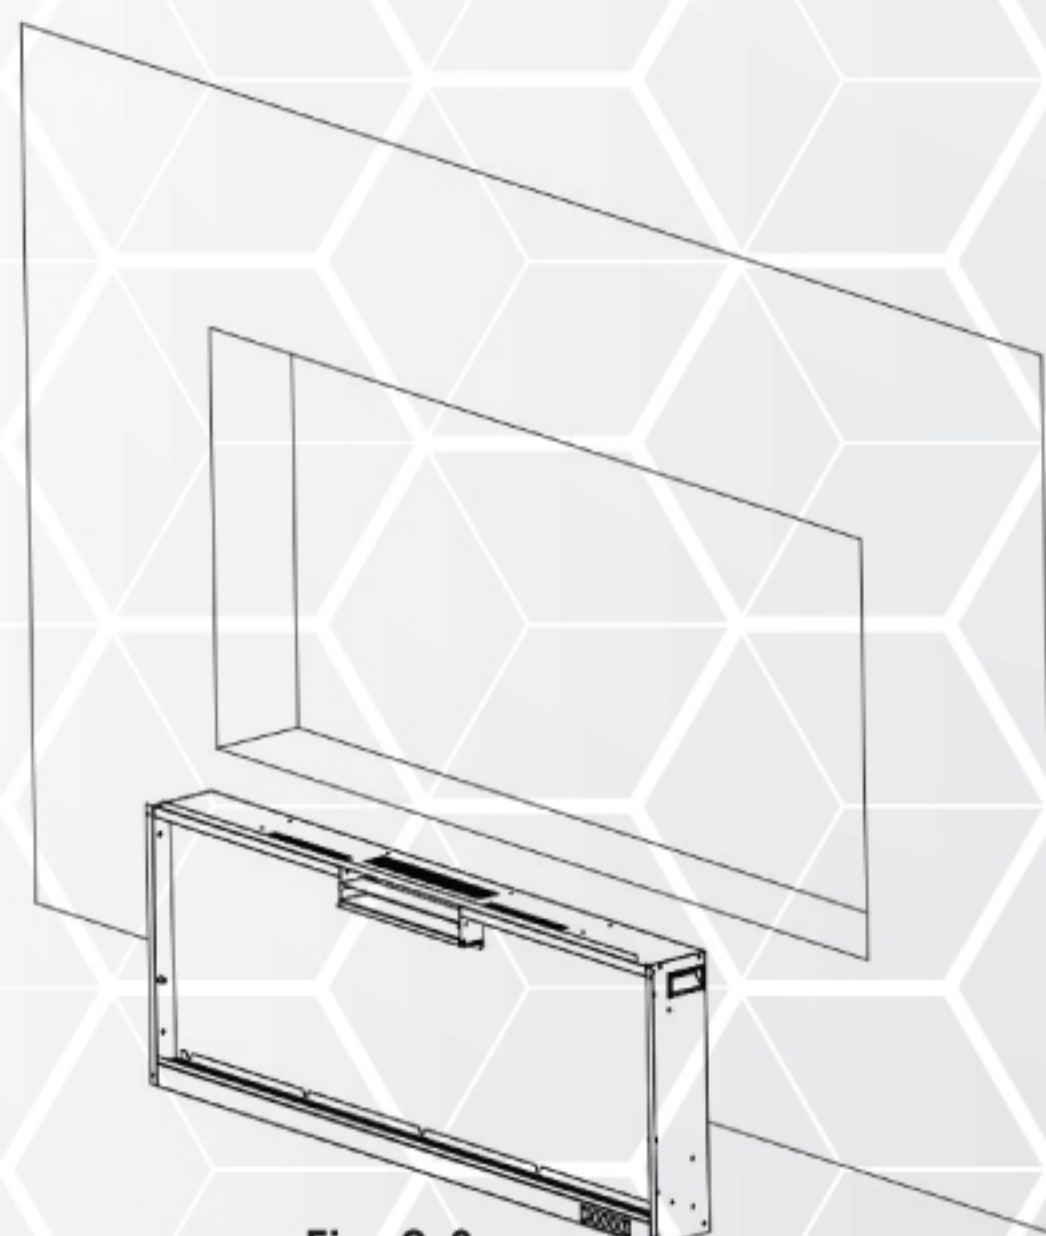
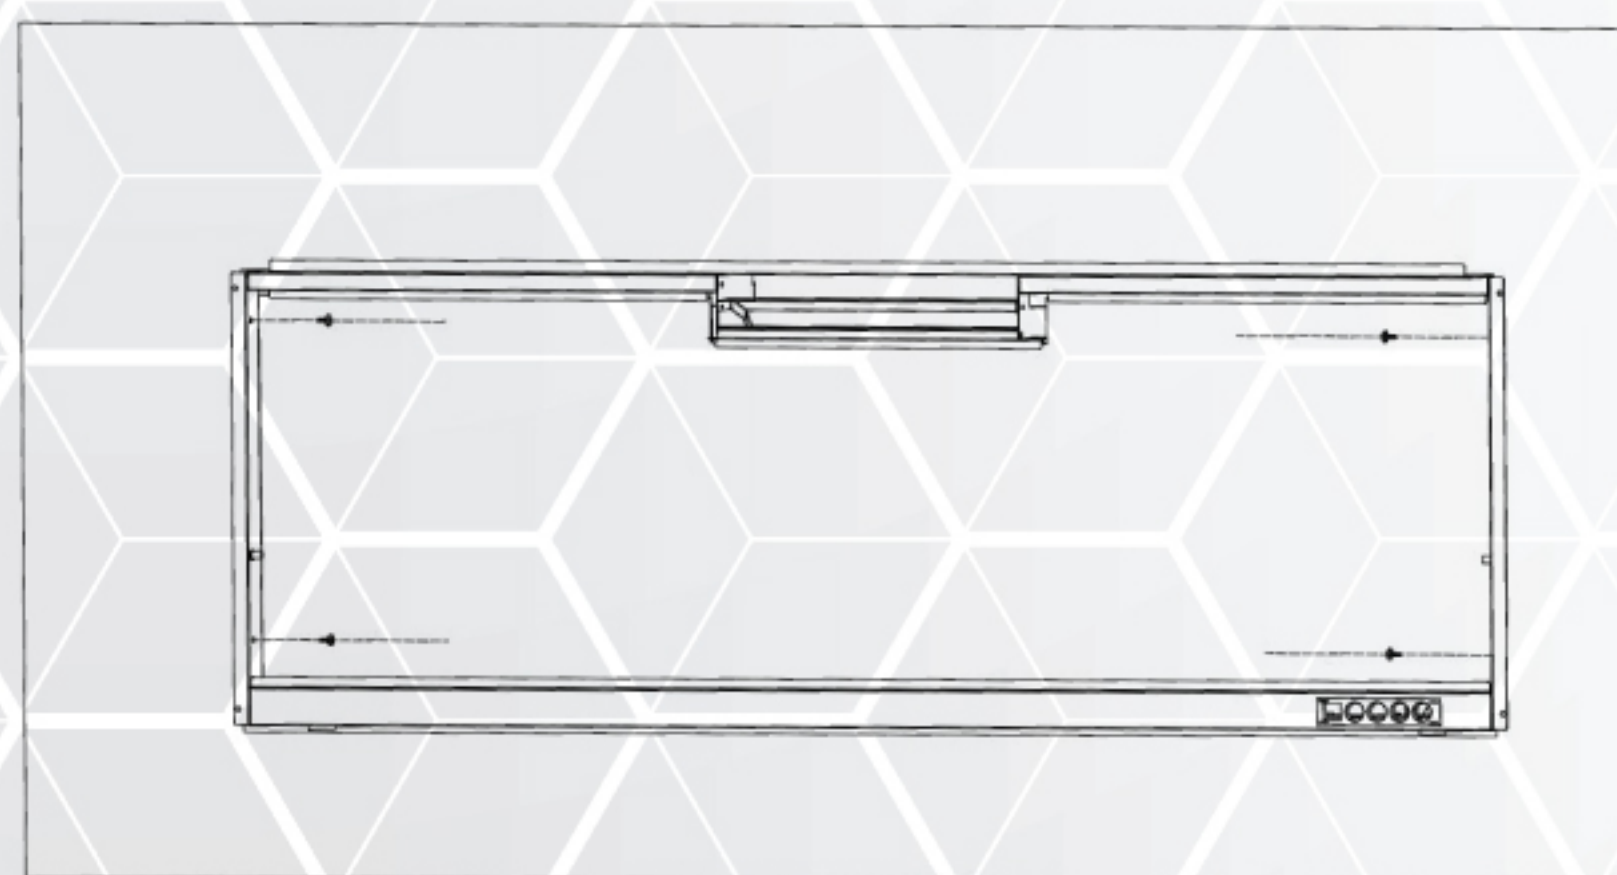

Fig. 2-3
Fig. 2-4
- Have two adult people to lift up the fireplace and insert it into the rough-in frame and then secure it by installing 4 wood screws (B) through the holes (Fig. 2-3, Fig 2-4).